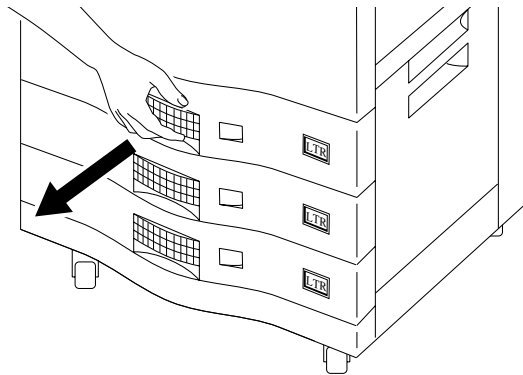

Figure 3-34 Opening paper tray
1. Open the indicated paper tray, as shown in Figure 3-34.